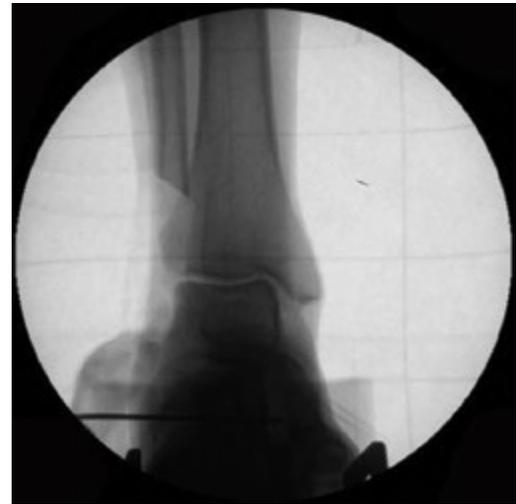

Fig. 17
- Assess proper joint congruency (Fig. 17).